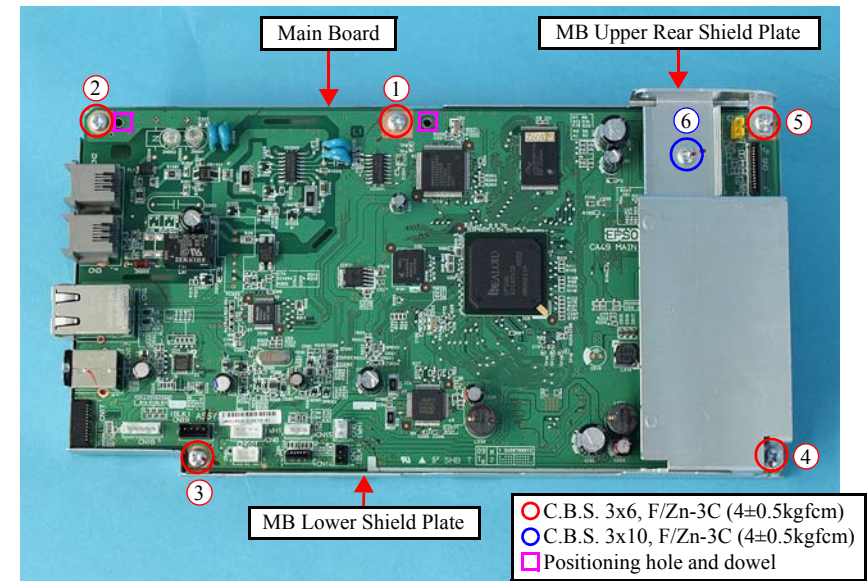

Figure 4-22. Removing the Main Board
- When installing the Main Board to the MB Lower Shield Plate, make sure to match the positioning holes to the dowels (x2) as shown in Figure 4-22.
- When installing the Main Board, tighten the screws in the order given in Figure 4-22.